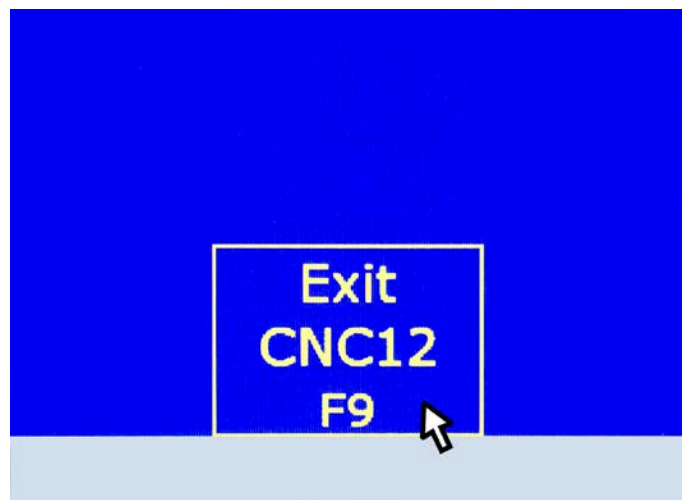

FIGURE 21
16. Then click on “Exit CNC12 F9” (see Figure 21).